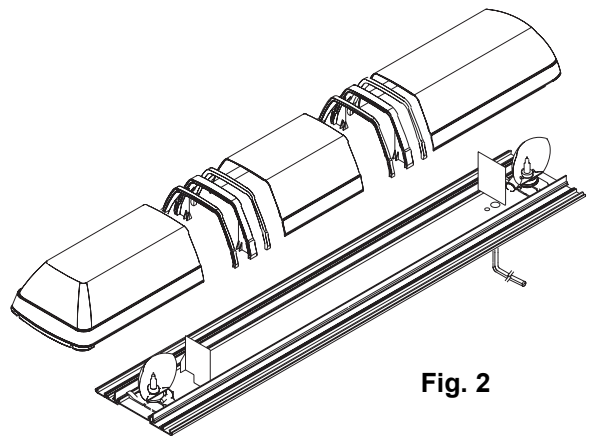

Fig. 2
2. Slide all the lenses and dividers out of the end of the bar so you can get to the base (Fig. 2). You may want to place the lenses and dividers aside, in the order you removed them, for easier reassembly.